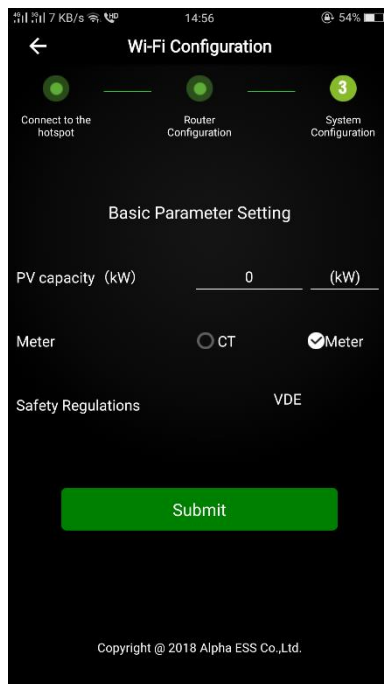
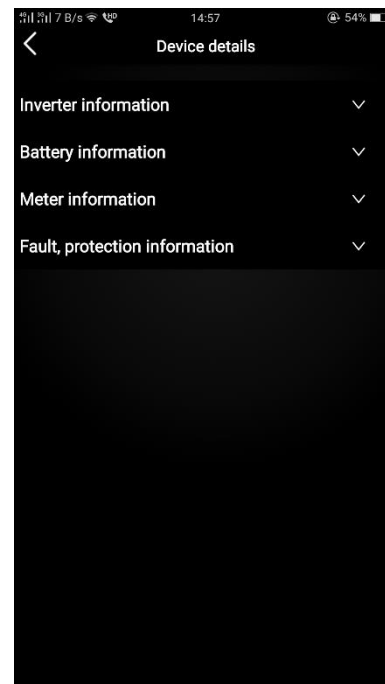

Figure 4.6 Basic Parameter Setting
Figure 4.7 Equipment Details
Step 4: set the basic parameters, and you can see the details of equipment, complete, as shown in Figure 4.6 and Figure 4.7.